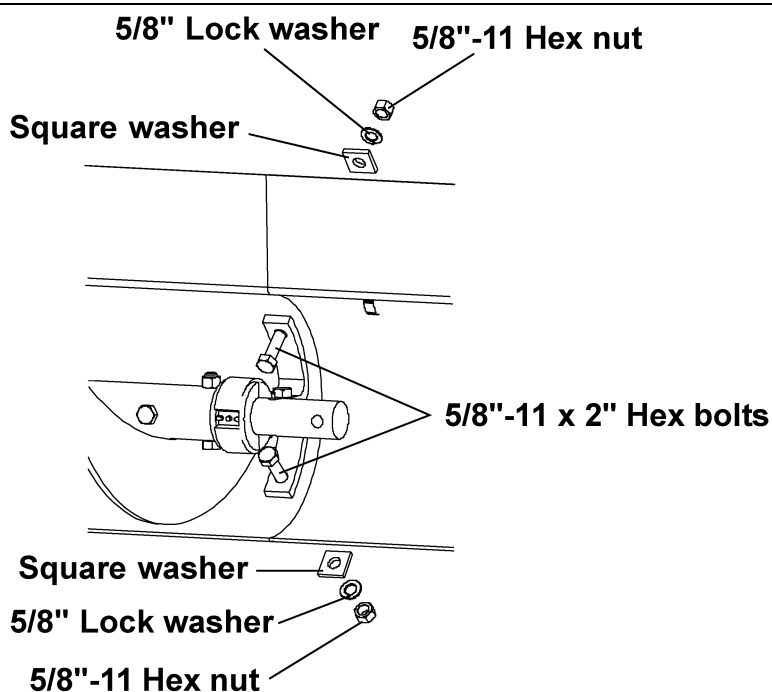

Figure 5E
- B. Bolt the hanger brackets to the back shields using two (2) 5/8"-11 x 2" hex bolts, two (2) square washers, two (2) lock washers and two (2) hex nuts as shown in Figure 5E.